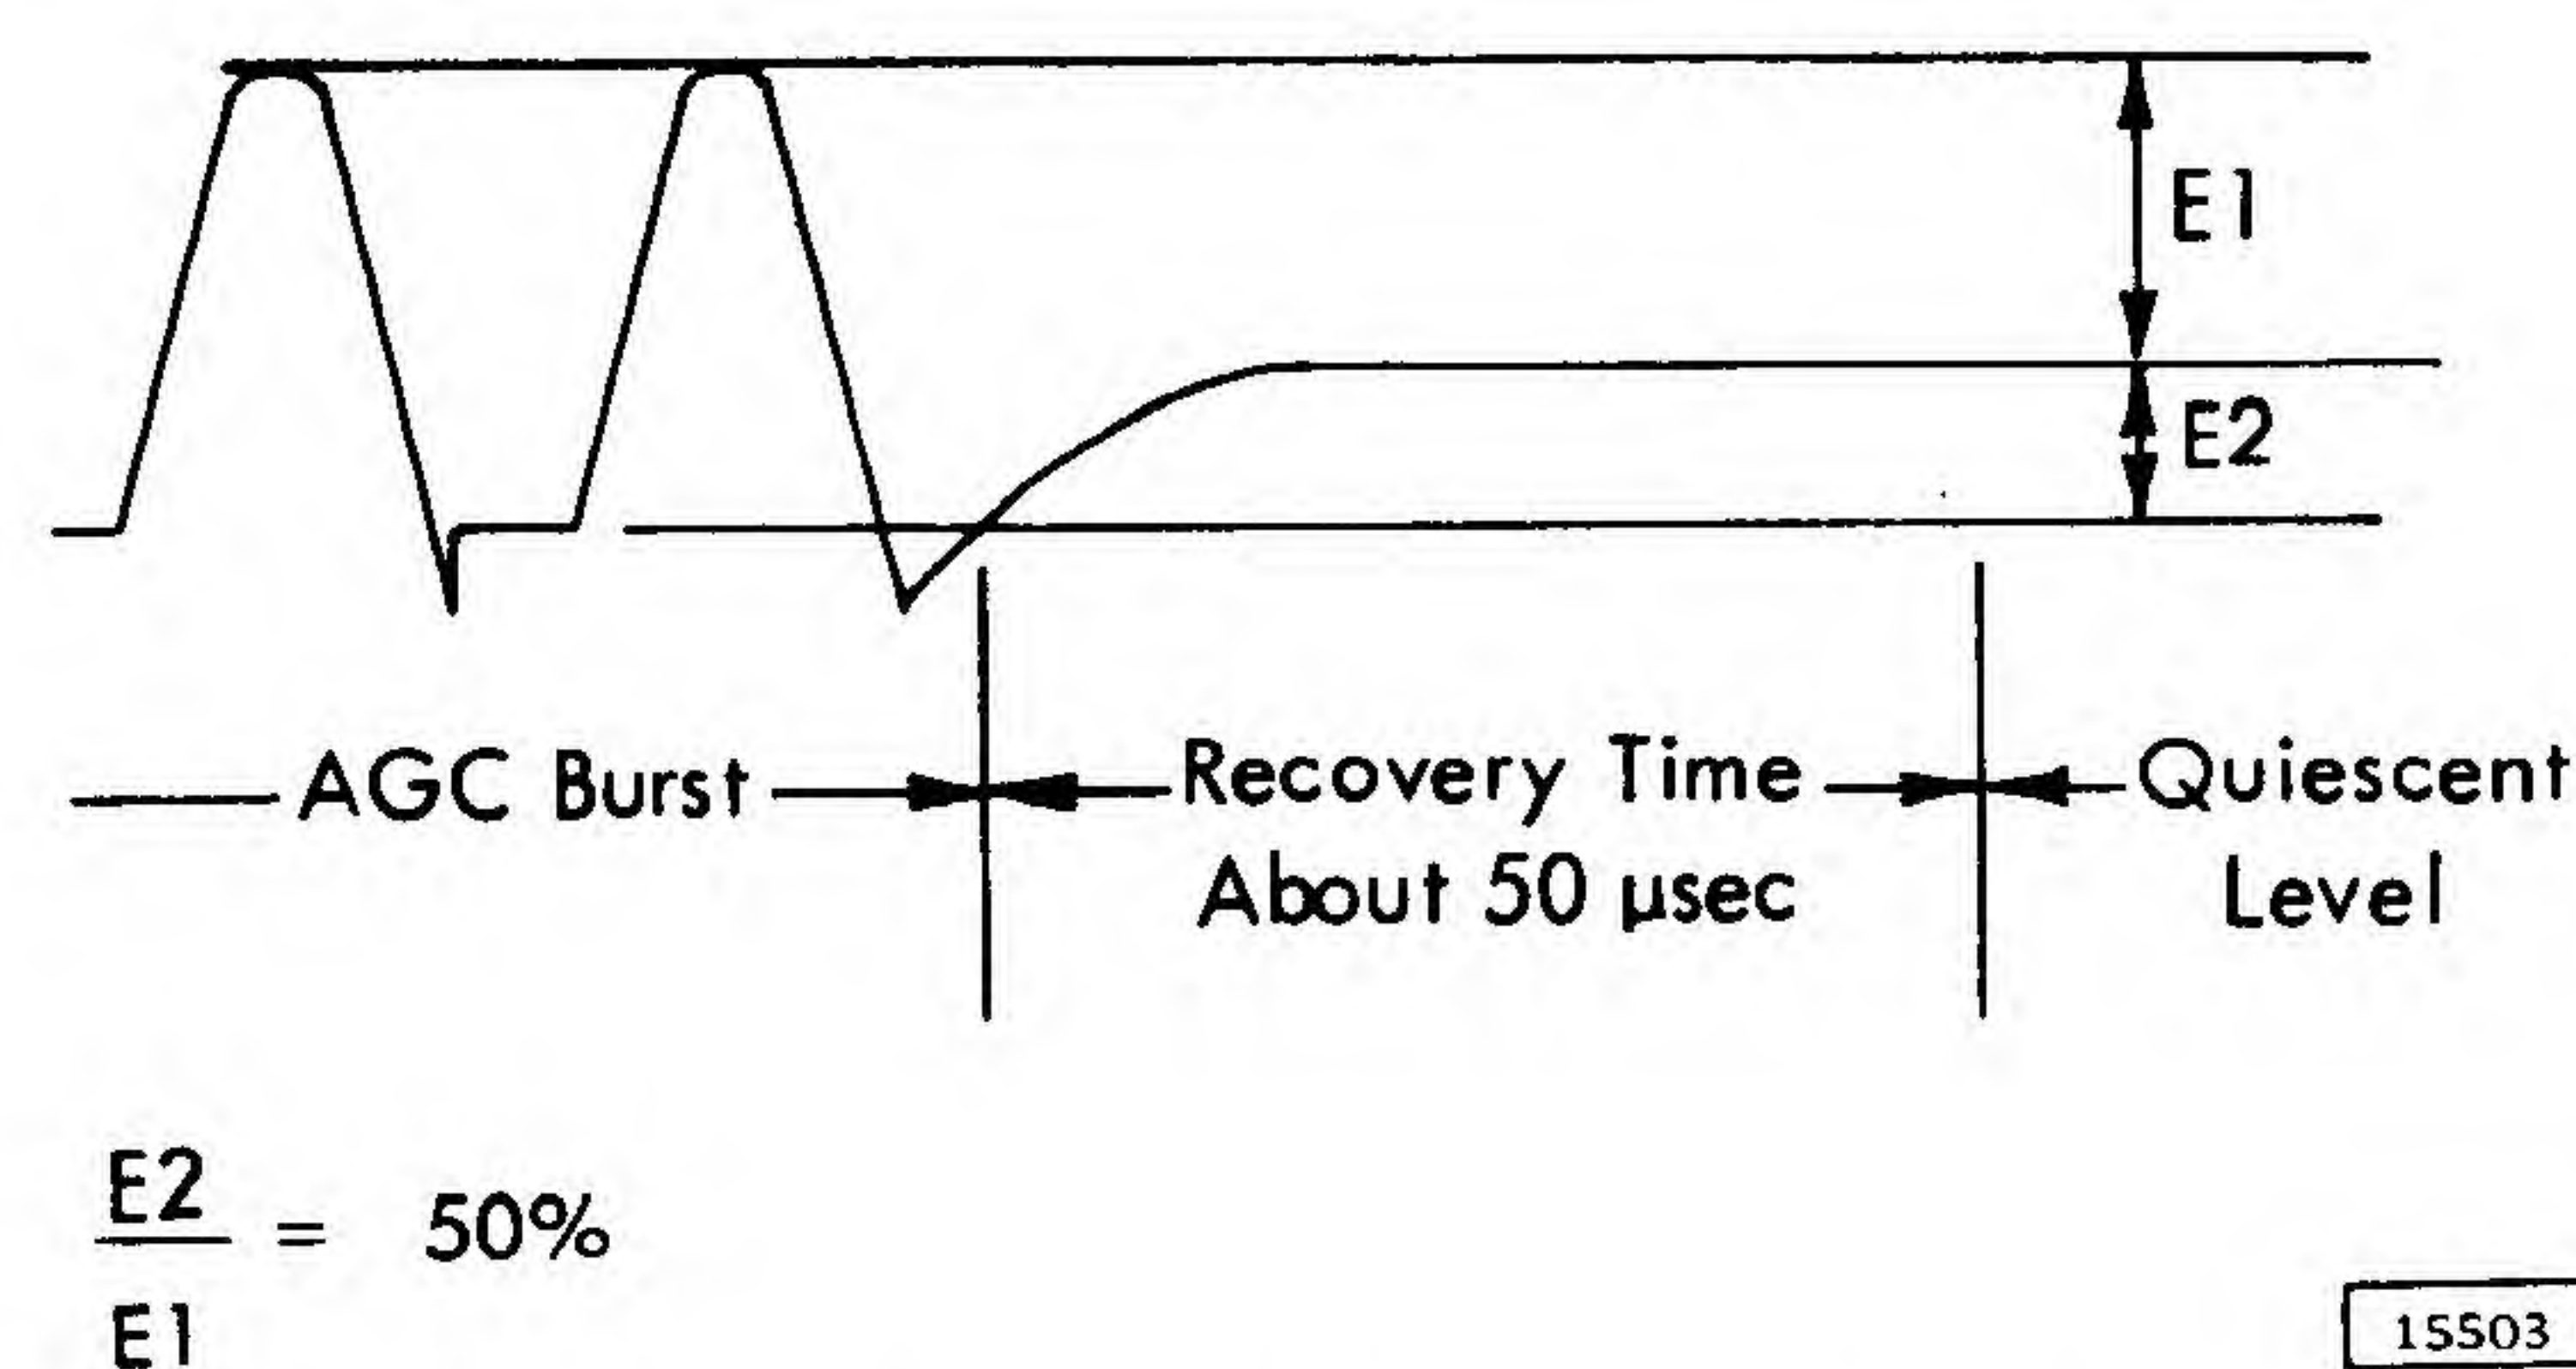

Figure 2-50. Read Amplifier Clipping Level
4. Observe pin A of the OR-AND (ANW-) at 01A5B18 and, by means of the potentiometer on this card, adjust the clipping level to 50% (Figure 2-50).
NOTE: This ratio (2-1) is easily accomplished by maintaining E_2 (Figure 2-50) at a constant vertical deflection of one cm (by means of the oscilloscope variable voltage control) and adjusting the potentiometer on the OR-AND (ANW-1) to obtain a vertical oscilloscope deflection of two cm for E_1 .